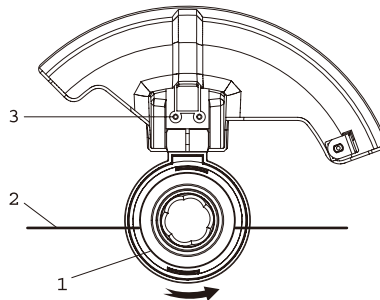

FIG. 7a
1. Place the tool on its back on a clean work surface (Fig. 7a).
2. Slide the guard in the direction as indicated by the arrow (1).
**NOTE:** Make sure the trimmer line (2) is not trapped between the guard mount and the guard.